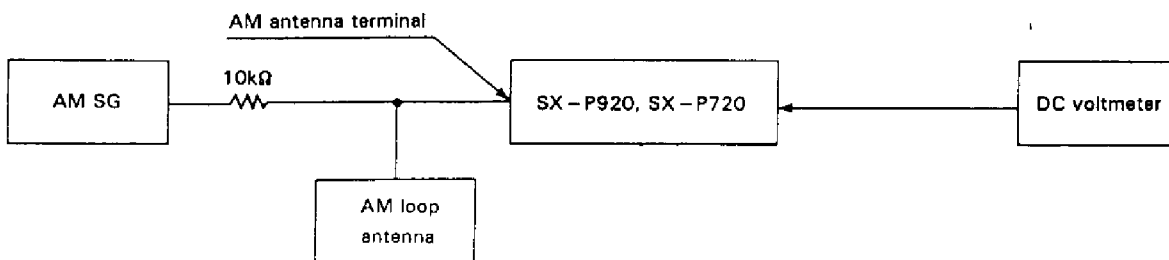

Fig. 5-2 MW Adjustment Connection Diagram
- Connect the wiring as shown in Fig. 5-2.